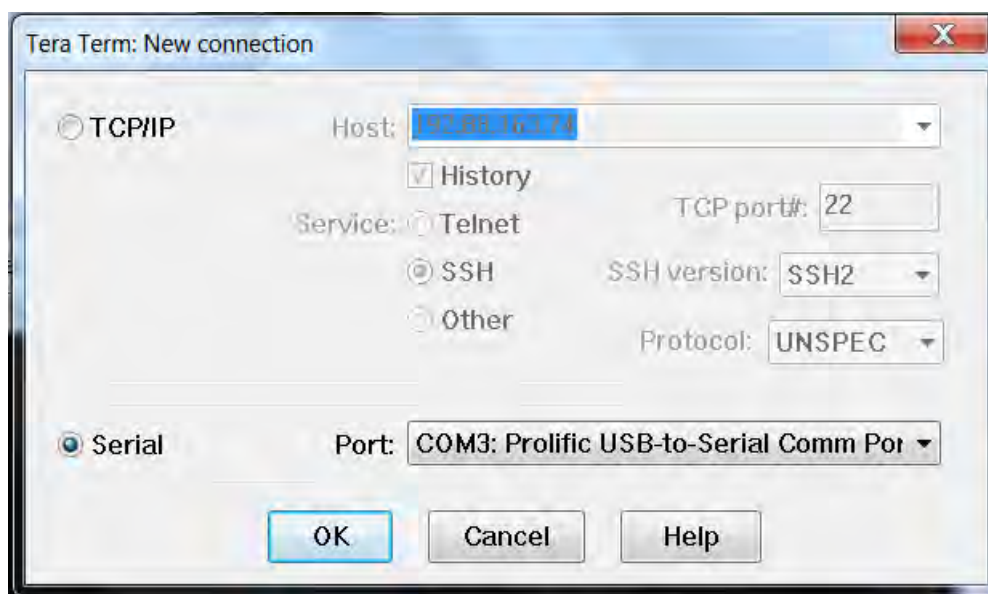

Figure 15-4. Selecting serial port
- c. Select **OK**, as shown in Figure 15-4.